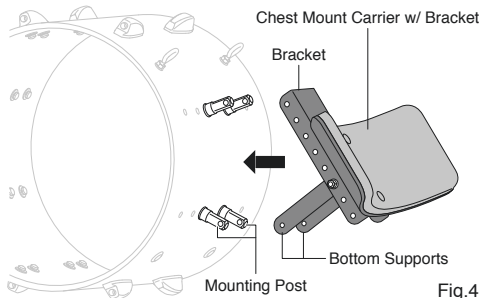

Fig.4
- To attach the Chest Mount Carrier w/Bracket to the Mounting Post, align the holes of the Bracket and Bottom Supports to the corresponding outer-holes of the Mounting Post (Fig.4).
- Insert the remaining four screws and tighten using a Phillips-Head screwdriver to secure (Fig.4-B).